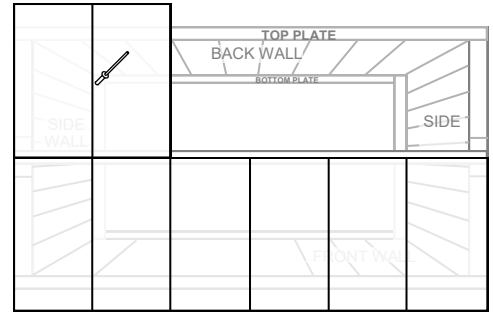

fig.1
- Place the Ridge Beam on a level surface and use 2 x 75mm screws to secure the Jack Studs to the underside of the Ridge Beam, one at each end (**fig. 1**).